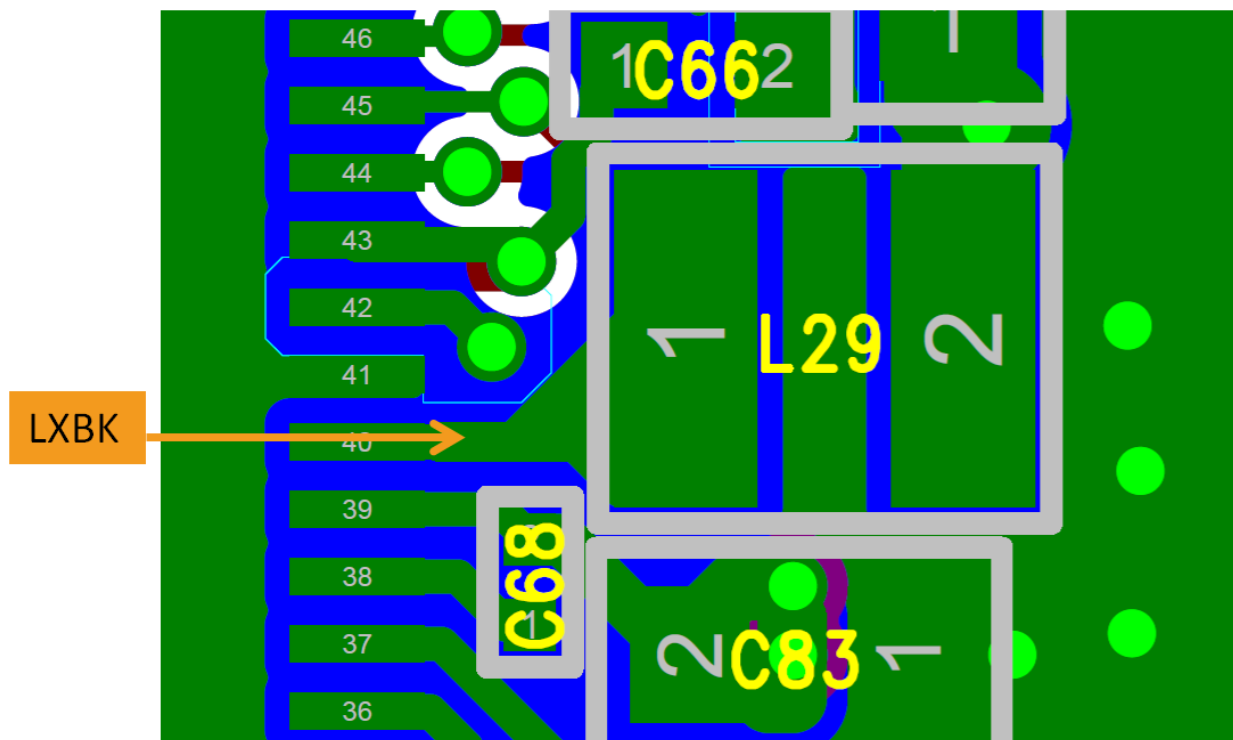
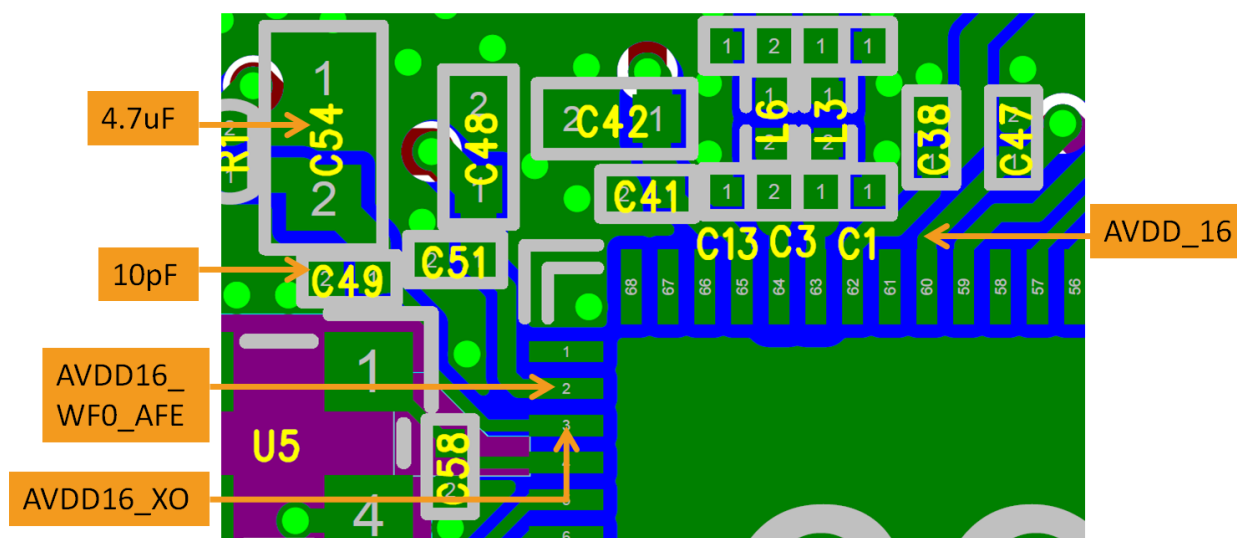
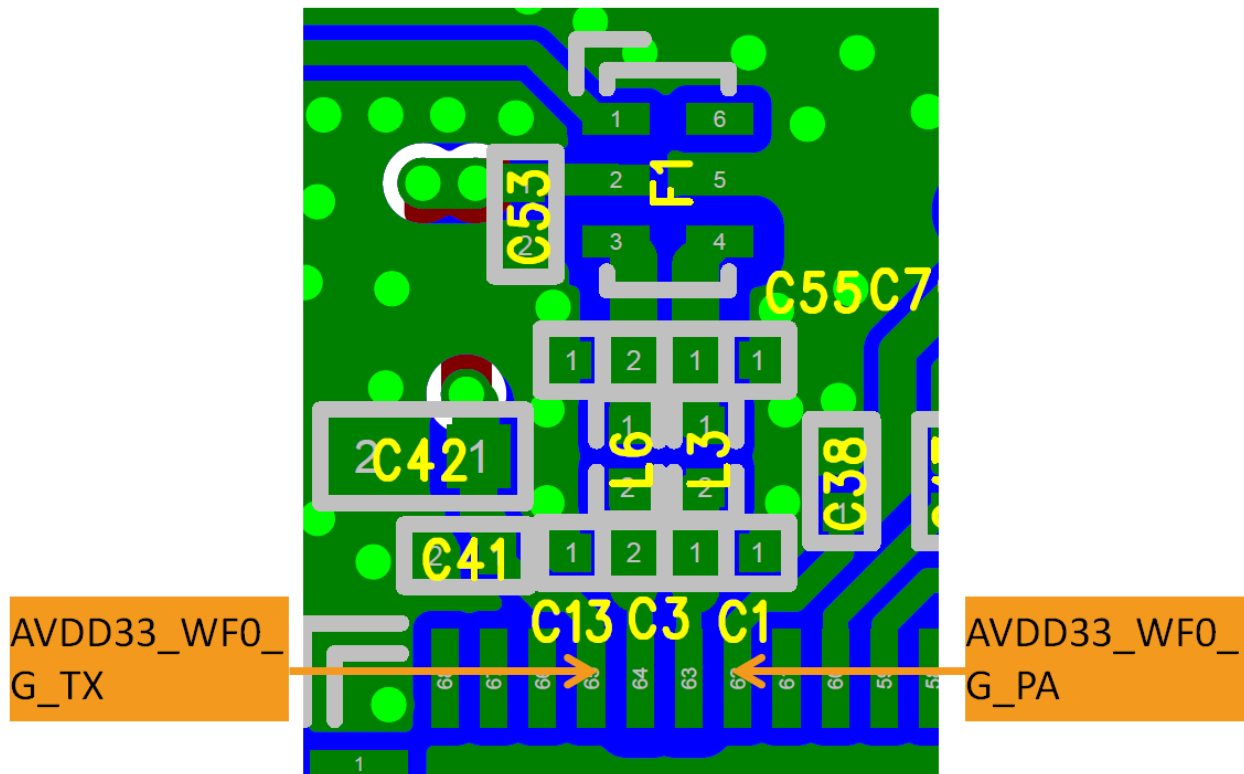

Figure 12. Placement and routing example of LXBK
Figure 13. Placement and routing example of AVDD16
Figure 14. Placement and routing of AVDD33\_WF0\_G\_PA and AVDD33\_WF0\_G\_TX
This section provides detailed description to design a power efficient device. The details on net or pin locations are shown in Figure 12, Figure 13, and Figure 14.
- AVDD16\_WF0\_AFE, AVDD16\_XO and AVDD16 (see Figure 13).
- AVDD33\_WF0\_G\_TX, AVDD33\_WF0\_G\_PA (see Figure 14).